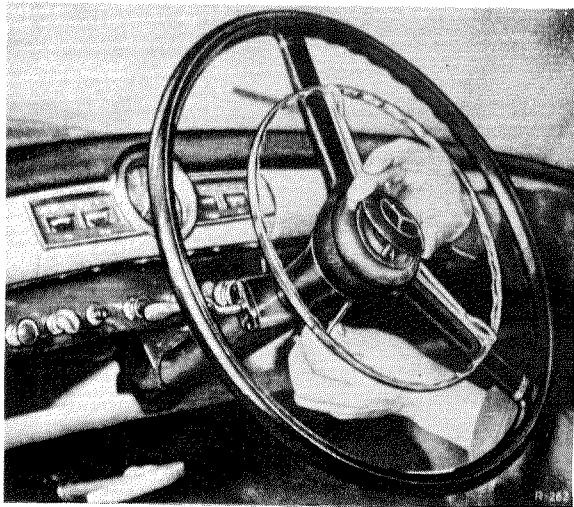

Fig. 54 — 3/2
3. Turn the steering wheel to the left until the right steering wheel spoke is about the width of one spoke beyond the vertical and the bore in the steering column jacket is exactly in line with the opening in the contact plate. Then use a piece of welding rod approximately 20 cm long and 3 mm thick to press the trademark plate off the steering wheel from below (Fig. 54 — 3/2).
4. Pull out the cotter pin (67) for the horn ring adjusting nut (66) and unscrew the adjusting nut. Take off the horn ring together with contact disk, compression spring, insulating plate and contact cup (Fig. 54 — 3/3).